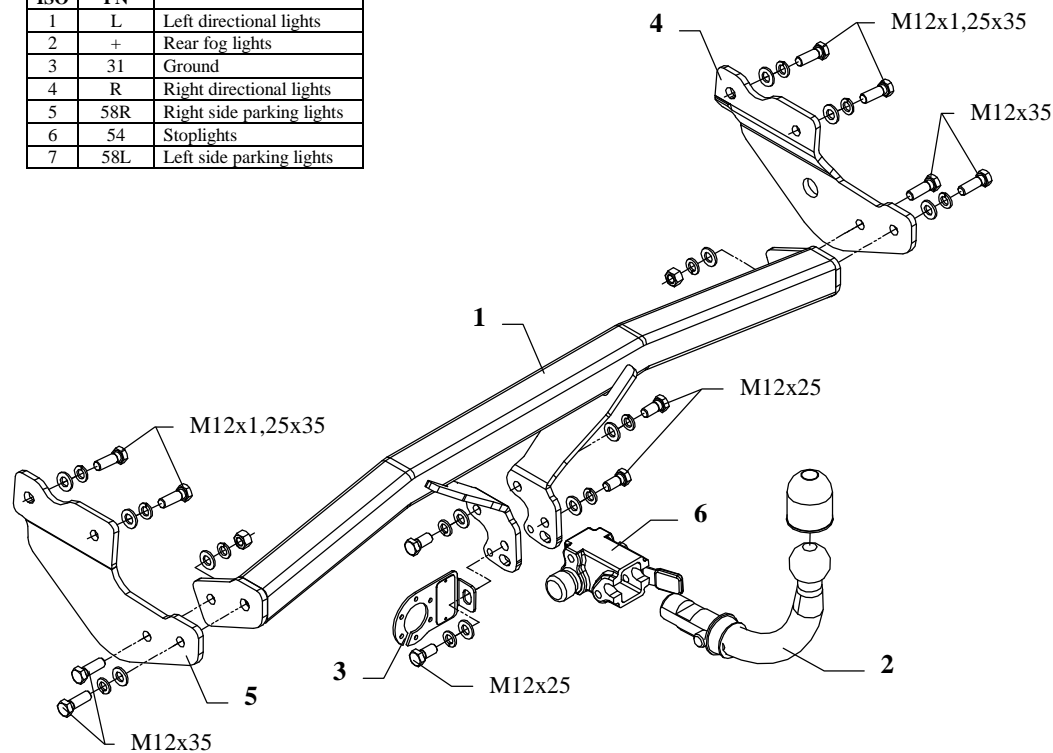

Fig. 1
4. Fix the brackets of the towbar (pos. 4 and 5) to chassis members using bolts M12x1,25x35mm (pos. 9) – loosely (see fig. 1).
5. Slip the main bar of the towbar (pos. 1) between installed brackets (pos. 4 and 5) and fix using bolts M12x35mm (pos. 8).
8. Fix body of the automat (pos. 6) and the socket plate (pos. 3) using bolts M12x25mm (pos. 7) from accessories. Place tow-ball (pos. 2) according to supplied instruction.